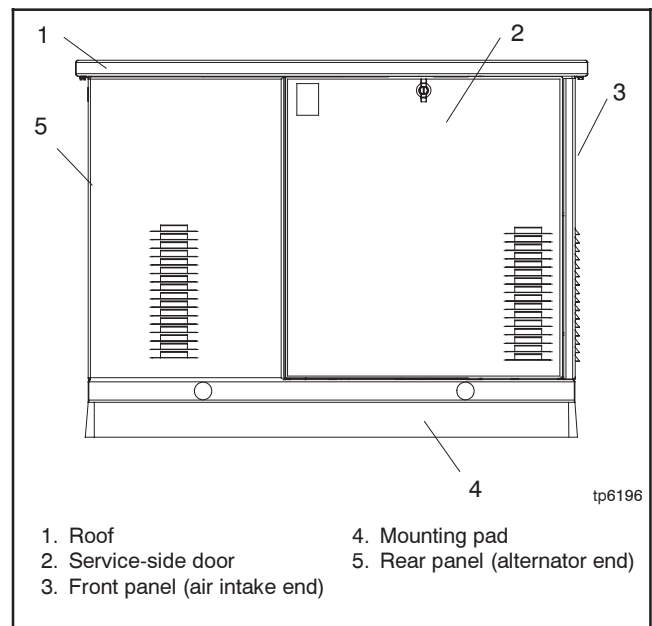

Figure 7-20 Generator Set Enclosure
11. Reinstall the enclosure panels in reverse order of removal. See Figure 7-20 and refer to Step 1 of the disassembly instructions.